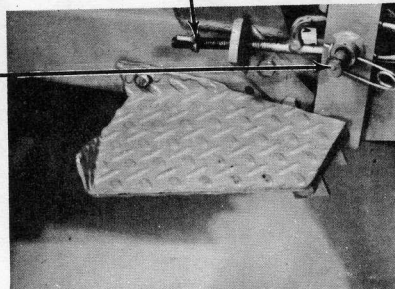

Figure 4.
7. The tractor mechanical or hydraulic lift lever is used to raise the mower into transport and to lower it to desired cutting height. The wing nut, Reference "A", Figure 4 is not used to adjust the cutting height and should be set according to Paragraph 2 under "Adjustments and Maintenance". Cutting height adjustments are covered in Paragraph 4 in the "Adjustment and Maintenance Section."
**CAUTION** If the tractor is equipped with Hydraulic Lift, make certain the "down pressure" pin is in the outer (float) position as shown in Figure 4 to allow the deck to glide over high spots without digging in and causing possible damage to the mower or turf.
2. The wing nut, Reference "A", Figure 4, is used as a limit stop for the mower suspension. With the mower resting on the floor at normal operating height, push downward on the implement lift arms until all slack is taken out of the linkages. Adjust the wing nut to the point where about 1/2" of space exists between the